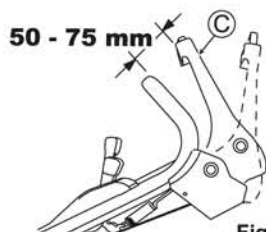

Fig. 24
Adjust so that the blade starts rotating when the distance between Blade lever (C) and the handle is 50 - 75 mm with the yellow button pressed as shown in Fig. 24.